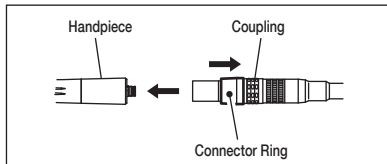

Fig. 10
- 4) Pull the connector ring of the coupling backward and remove the handpiece. (Fig. 10)